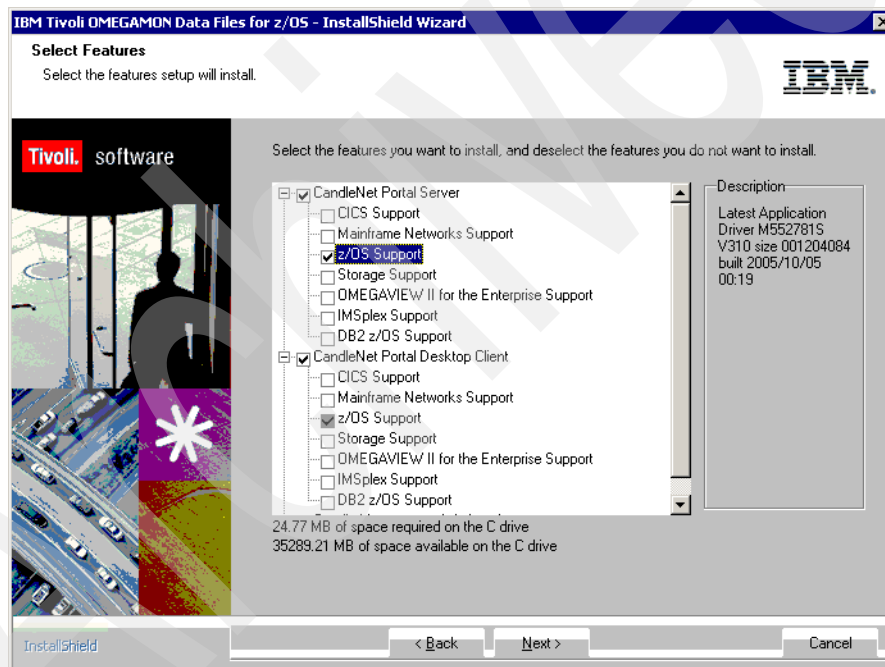

Figure 3-45 Application support
2. The InstallShield wizard starts; follow it. Figure 3-45 shows the product selection window, which lists the OMEGAMON application support components on the CD-ROM. Expand the + sign next to CandleNet Portal Server, CandleNet Portal Browser Client, and CandleNet Portal Desktop Client components, and check z/OS support for each.